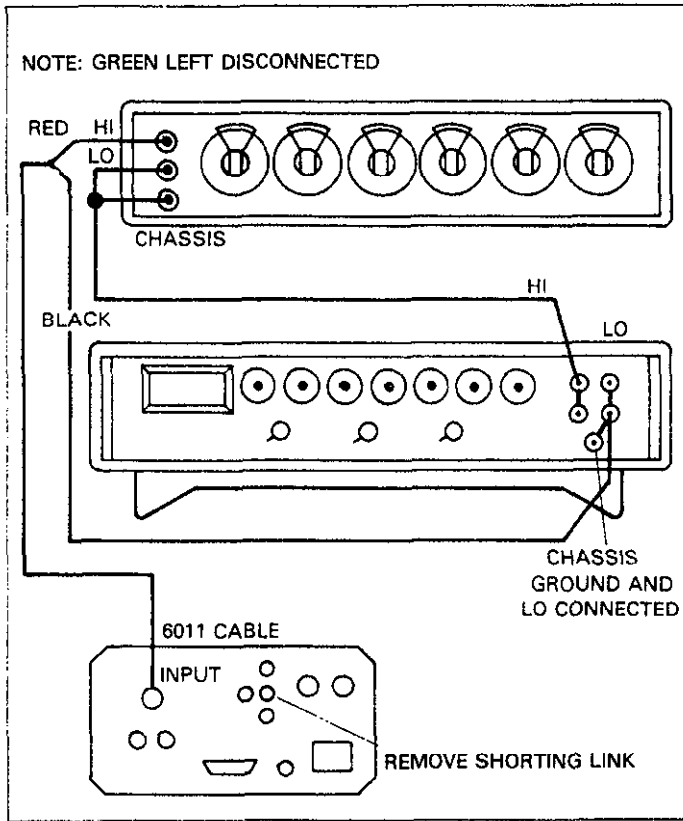

Figure 5-2. Connections for Amps Verification (200nA to 20mA Ranges)
3. Connect the DC calibrator and decade resistance box to the instrument as shown in Figure 5-2.